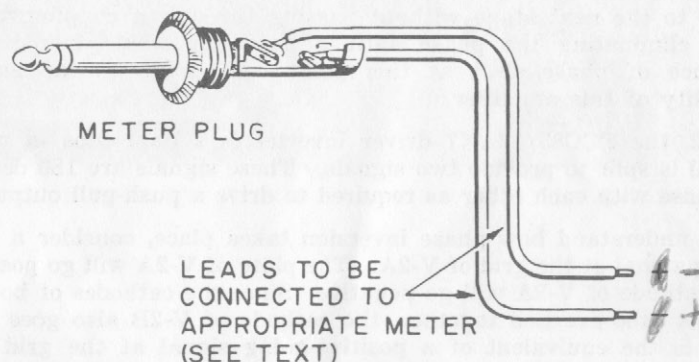

FIGURE 27. CONNECTING LEADS TO THE METER PLUG
- Prepare the meter plug as shown in Figure 27.